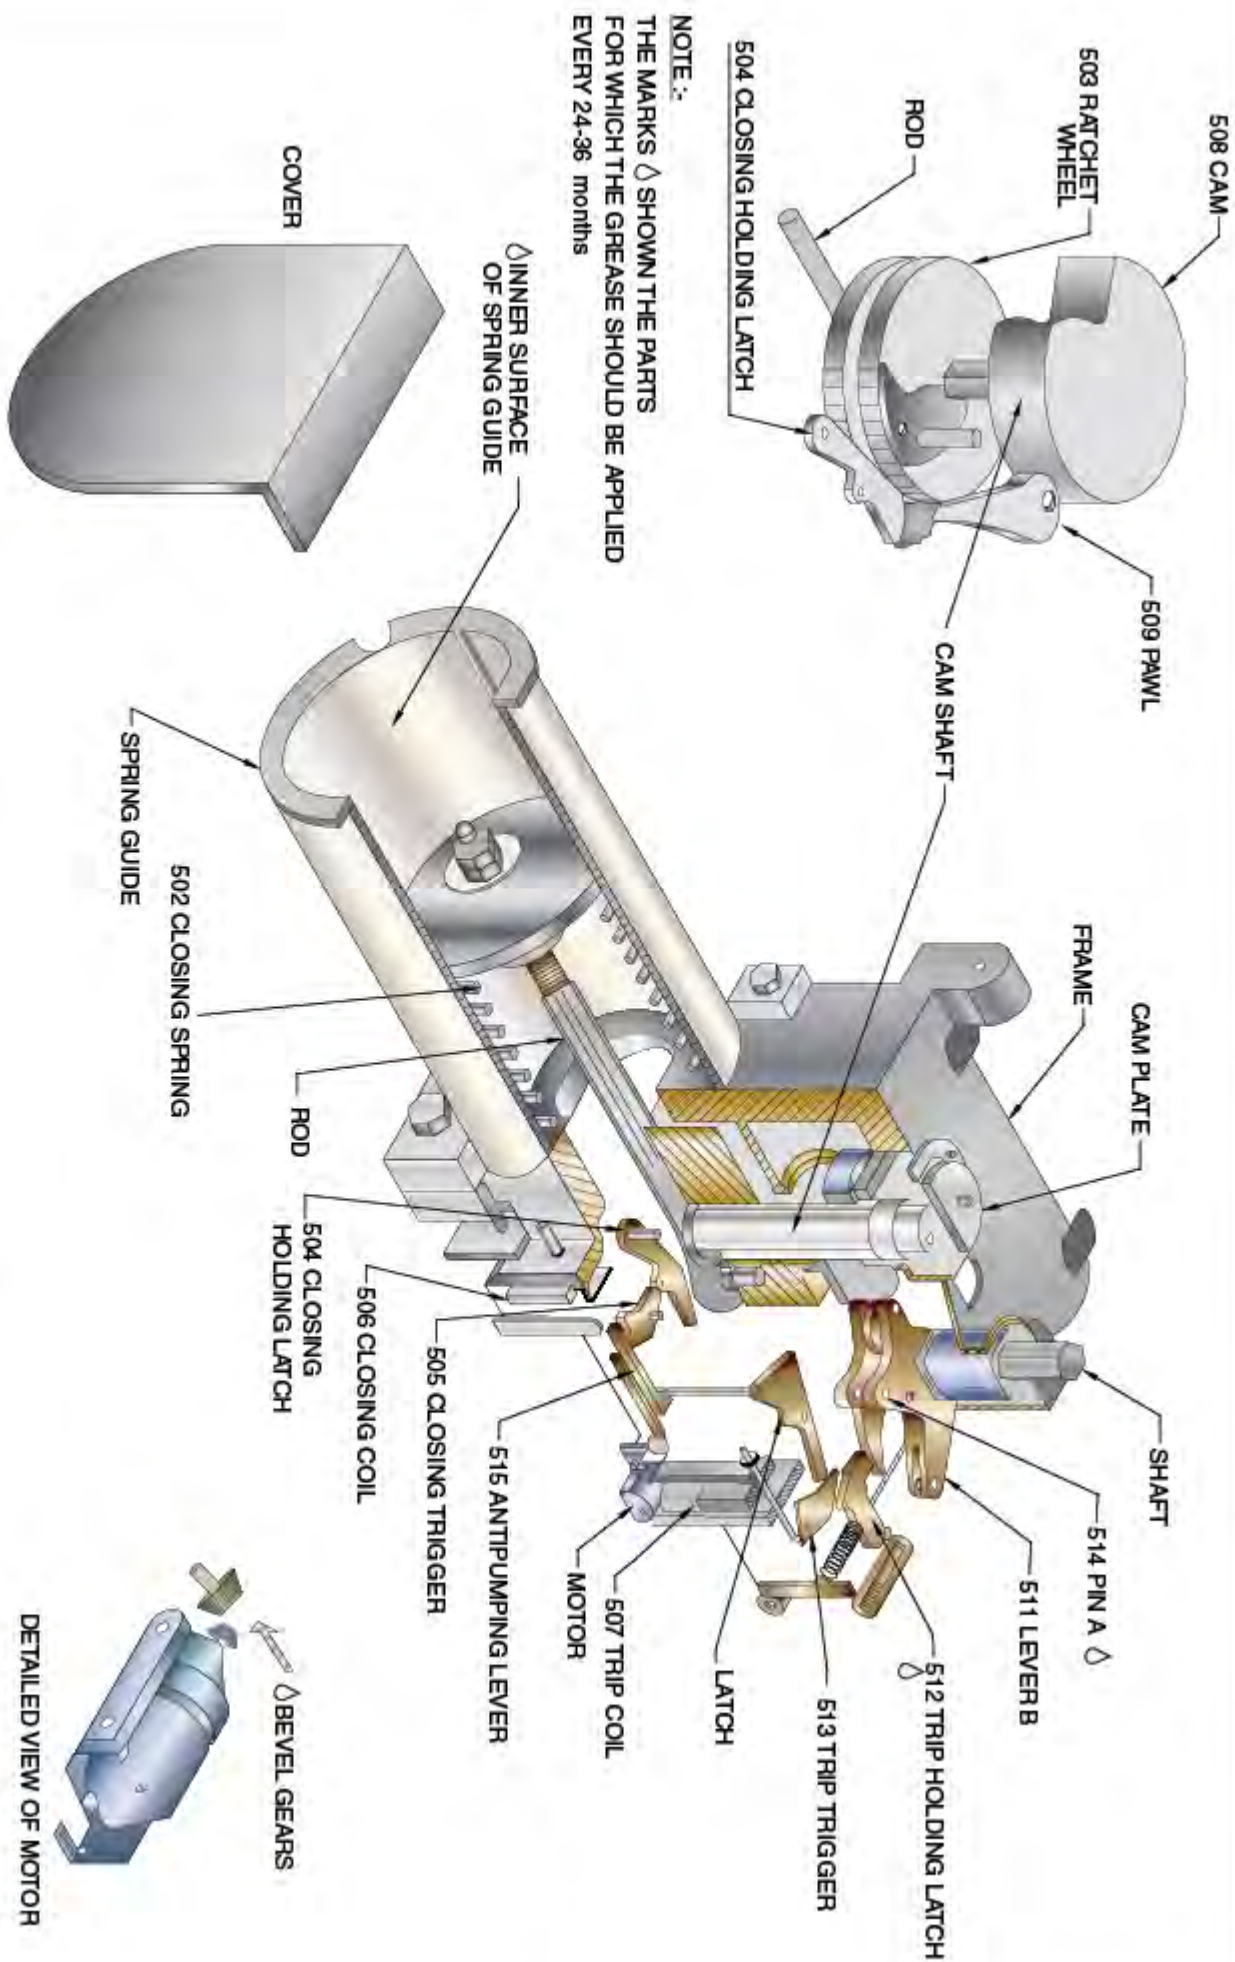

FIG. 16 SOLID CROSS-SECTIONAL VIEW OF TYPE BM SPRING OPERATING MECHANISM
Lubrication of the mechanism is required during routine inspections. The lubricant Darina # 2, available from CGL is the only authorised grease for this application. Relubrication requires removal of the old grease and applying fresh grease. Ref. Appendix - D. Fig. 16 shows the points requiring lubrication. All points should be relubricated at operational maintenance
(1) The following items marked on Fig.16 are to be lubricated every 24-36 months.